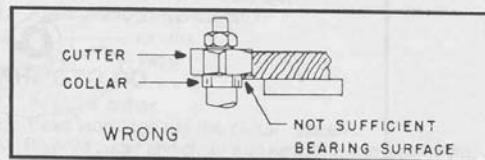
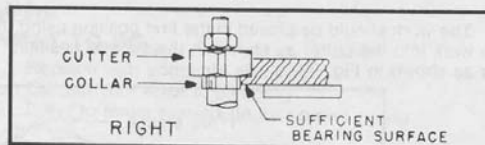

Fig. 26
Fig. 27
3. A portion of the edge of the work **MUST** remain untouched by the cutters in order that the collar will have sufficient bearing surface. Fig. 26 illustrates the wrong way for this operation while Fig. 27 illustrates the right way.